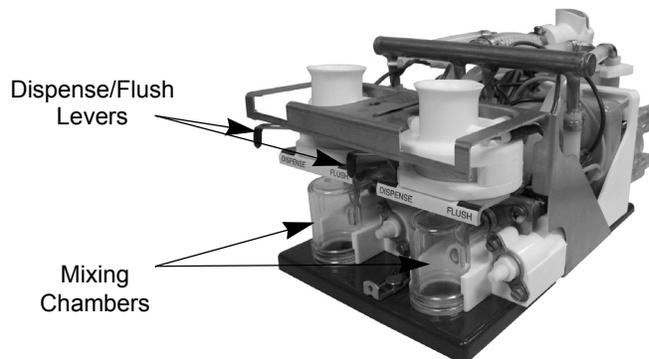

Figure 15. Platform Assembly with Dispense/Flush Levers
1. Move all of the Dispense/Flush levers (located on the platform assembly in the refrigerated cabinet) to the *Flush* position. Place an empty cup on the drip tray below each dispense nozzle (Figure 15).